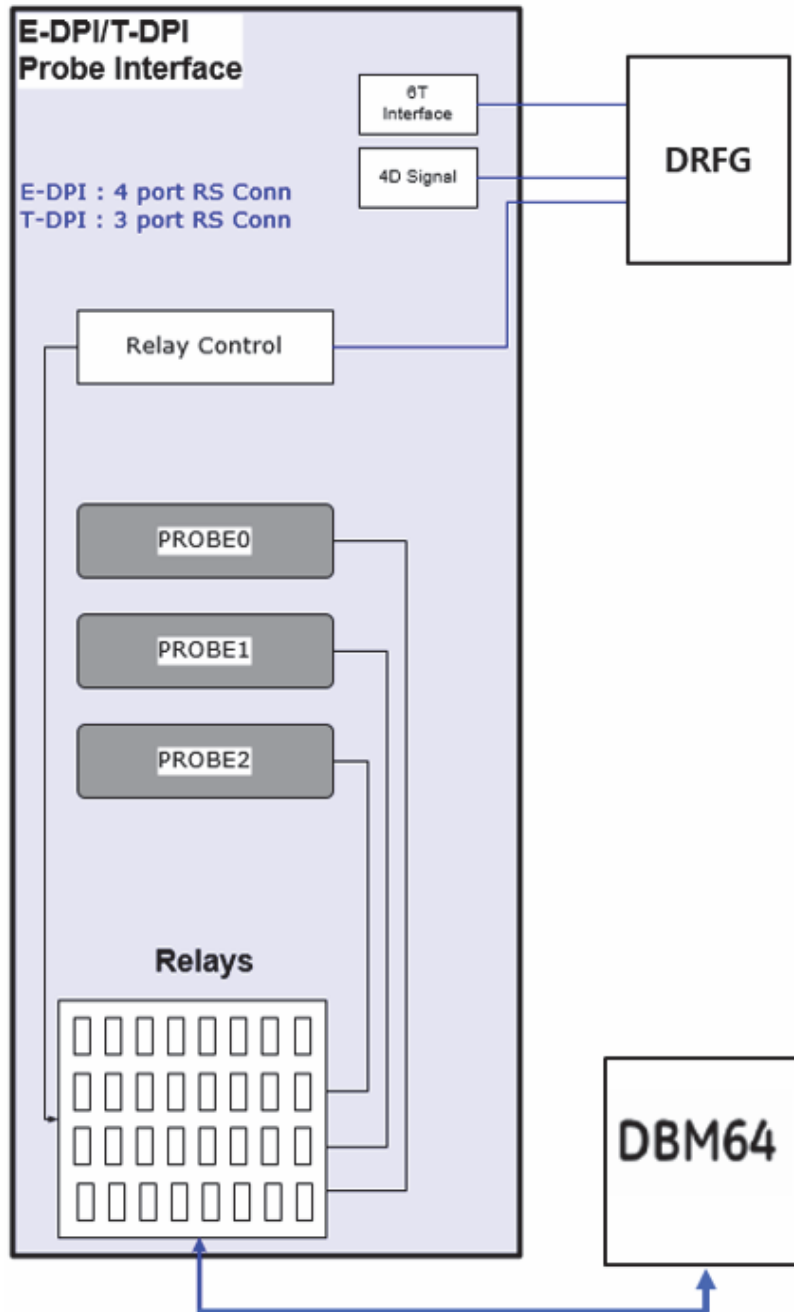

Figure 5-7 T-DPI - Blockdiagram
- *Figure 5-7: T-DPI - Blockdiagram*